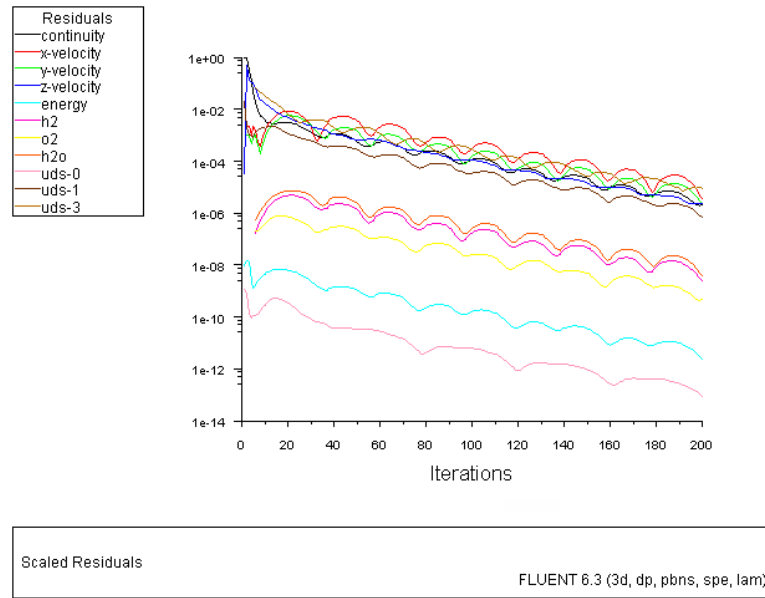

Figure 4: Residual Plot
*The solution residual plot should resemble that shown in Figure 4. The average current density is displayed in the console at the end of each iteration. At the end of the calculations, the current density is reported as approximately **0.324 A/cm²**.*